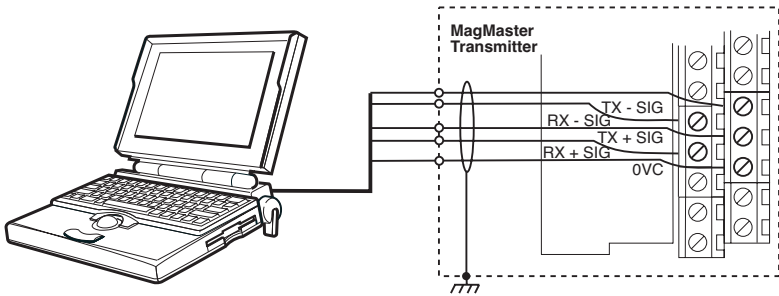

Fig. 3.22 RS 422 Connections (Balanced)
3.3.6 Computer Connection – Fig. 3.22 and 3.23